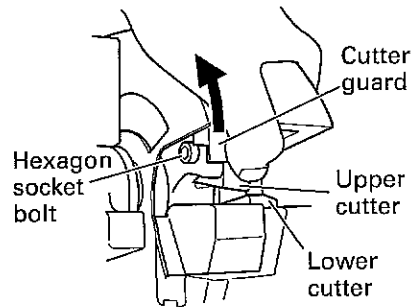

Fig. 10
- (1) Pull the switch lightly and let the upper cutter move slowly. When the hexagon socket bolt that fixes the upper cutter comes out of the cam cover, turn the switch OFF and stop the motor.
- (2) Unplug the power cord from the receptacle.
- If you remove the hexagon socket bolt using the provided Allen key, you can remove the cutter. (Pushing the cutter guard up in the direction of the arrow shown in Fig. 10, facilitates removal of the upper cutter.)